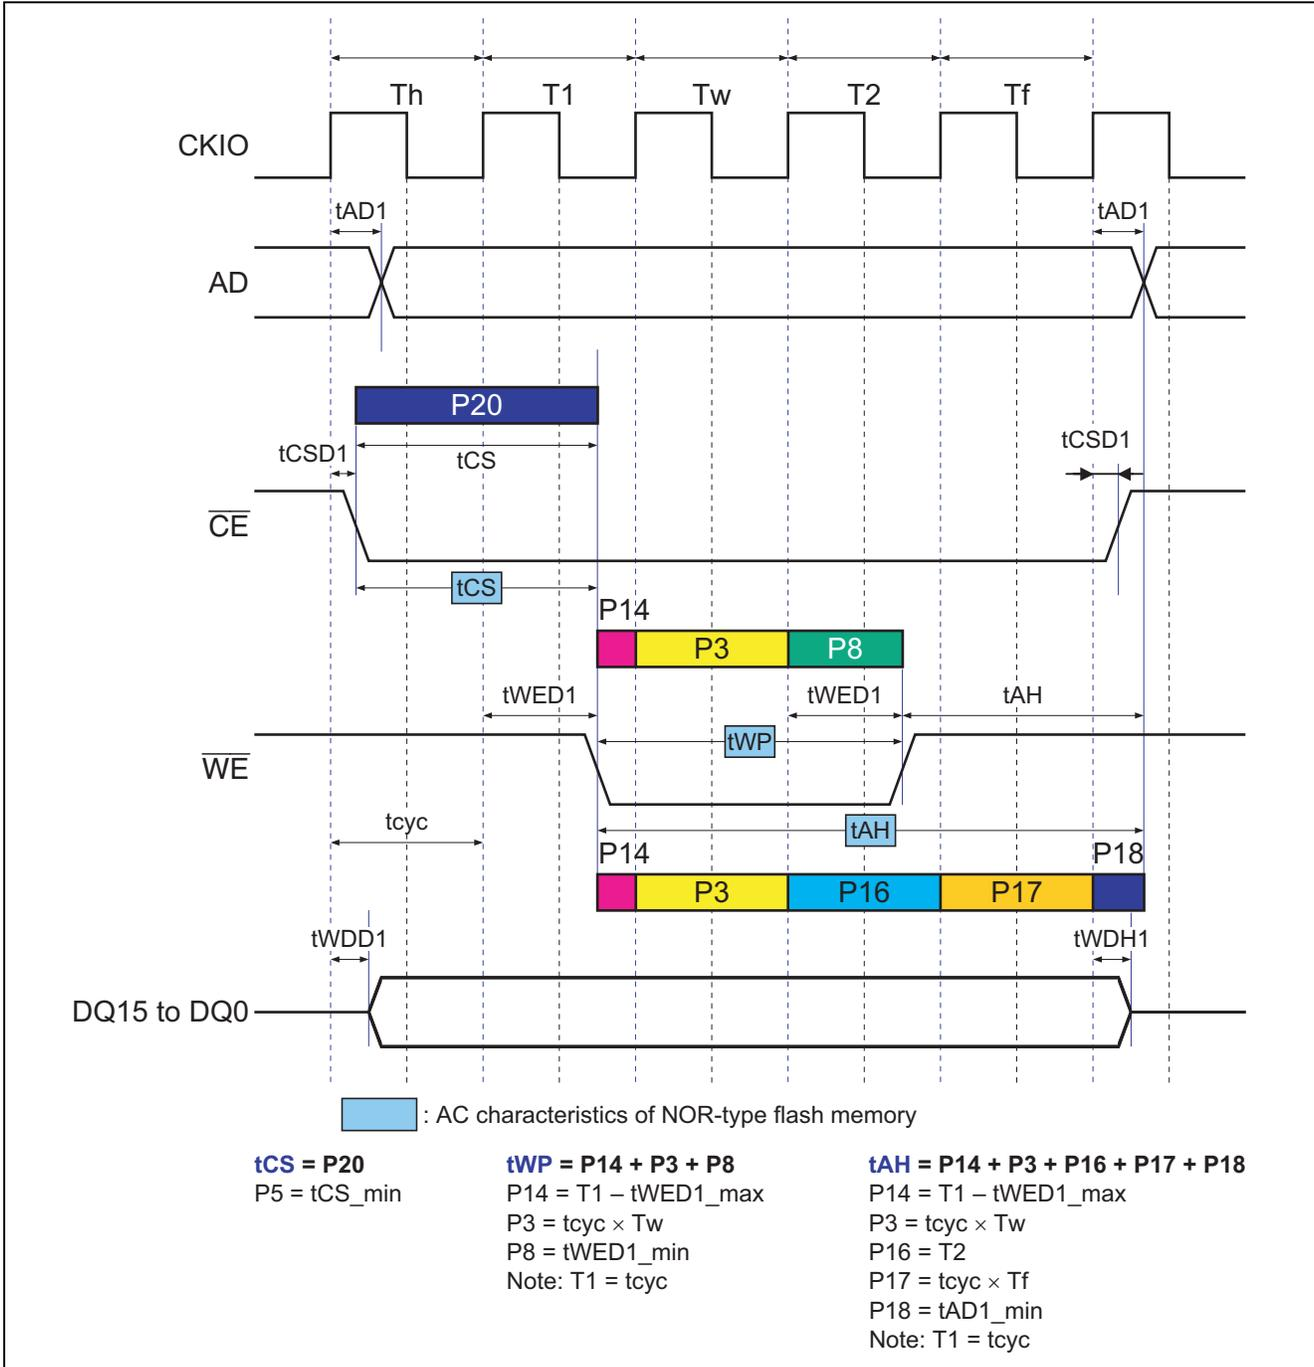

Figure 10 Write Timing for NOR Flash Memory When SW = 1, WR = 1, and HW = 1 (2)
$$t_{CS}(\min) \leq \underbrace{t_{CS_min}}_{P20} \dots\dots\dots (\text{figure 10})$$
$$t_{AH}(\min) \leq \underbrace{(T1 - t_{WED1_max})}_{P14} + \underbrace{(tcyc \times Tw)}_{P3} + \underbrace{(T2)}_{P16} + \underbrace{(tcyc \times Tf)}_{P17} + \underbrace{(t_{AD1_min})}_{P18} \dots\dots\dots (\text{figure 10})$$
- tWP of NOR flash memory (write pulse width) (figure 10)
Figure 10 shows write timing for NOR flash memory (2).